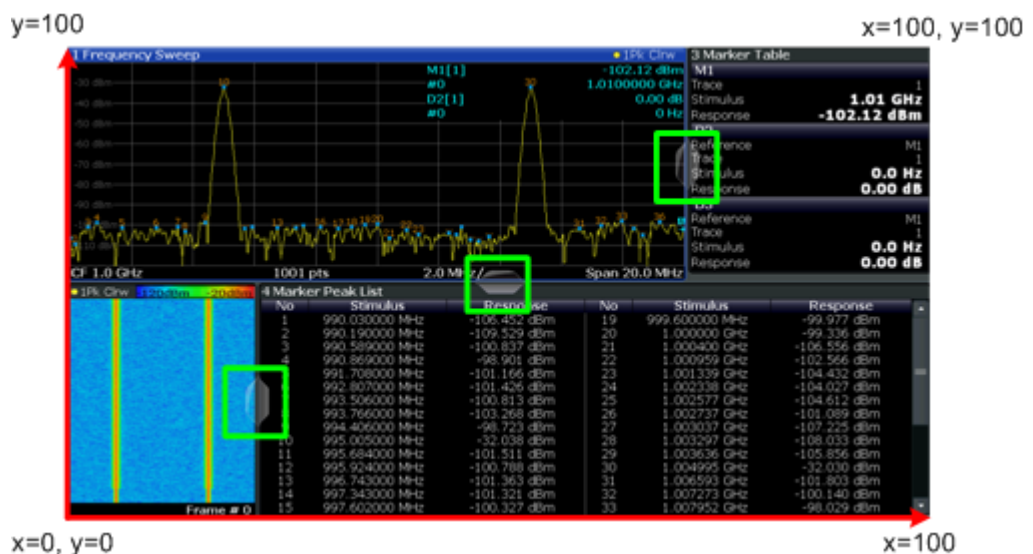

Fig. 6-1: SmartGrid coordinates for remote control of the splitters
- The point of origin ($x = 0$, $y = 0$) is in the lower left corner of the screen. The end point ($x = 100$, $y = 100$) is in the upper right corner of the screen. (See figure 6-1.)